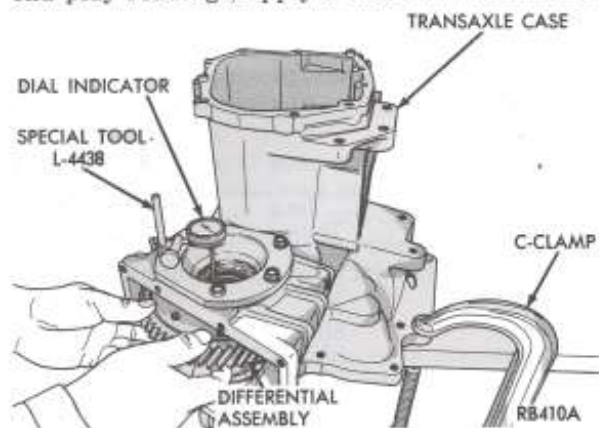

Fig. 1—Checking Differential Bearing End Play to Determine Shim Thickness (A-525 only)
(3) Oil differential bearings with SAE 5W-30 engine oil and install differential assembly in transaxle case. Check extension housing O-ring for damage (replace if necessary) and add a 1/16 inch bead of RTV sealant to extension flange. Install extension housing and differential bearing retainer. Torque bolts (see Tightening Reference).
(4) Position transaxle with bell housing facing down on workbench with C-clamps. Position dial indicator (Fig. 1 or 2).
(5) Apply a medium load to differential by hand (A-525), or Tool C-4995 with T-Handle (A-520/A-555), in the downward direction while rolling differential assembly back and forth a number of times to settle bearings. Zero dial indicator. To obtain end play readings, apply a medium load in the